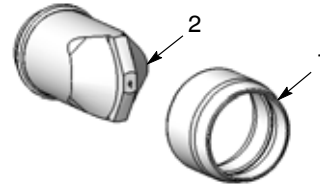

Figure 18 Nozzle and Retaining Nut
2. See Figure 18. Unscrew the nozzle (2) from the retaining nut (1).